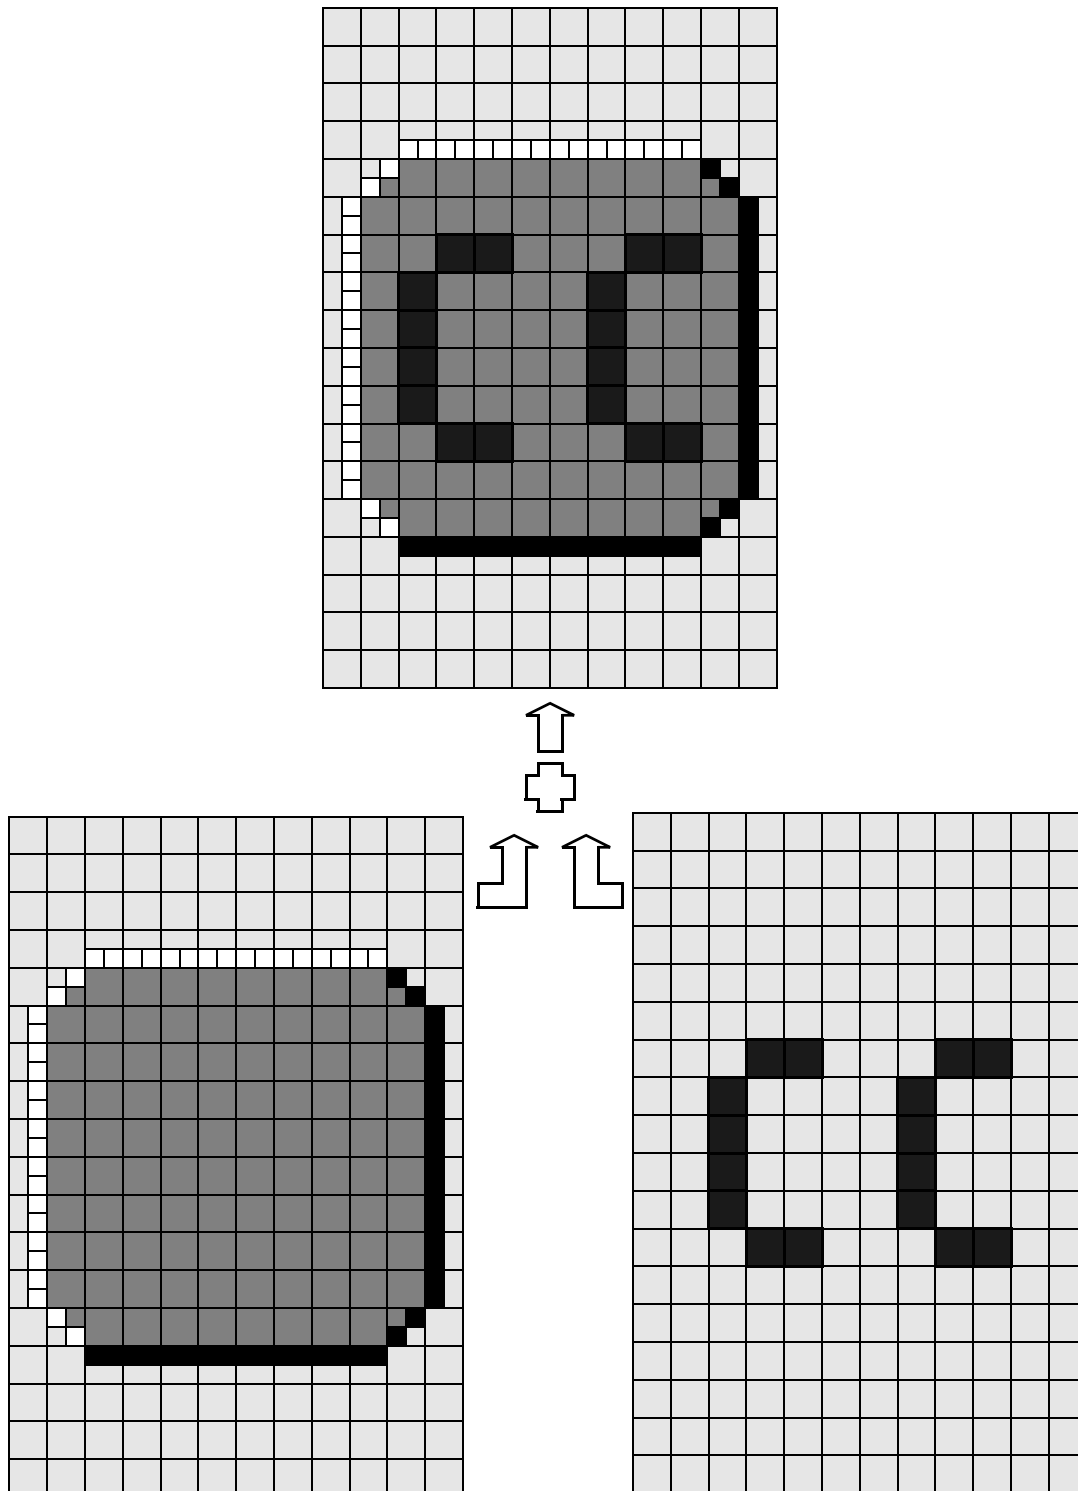

Figure 17-8. Overlaying Characters to Get Two Foreground Colors
A unique feature that appears only in OSD mode is the possibility of overlaying two characters to form a composite one. This is controlled by the backspace (BS) bit, which appears in format A of the character control code. This code must be put between two characters and must be the only one between them. Its effect is to overlay the second character on top of the first one. Figure 17-8 illustrates this feature. The way in which the foreground colors will be combined can be specified in one of two forms: first, the second character will always win; second, the resulting foreground color will be the X-OR of the individual RGB bits. Using this feature, it is possible to have up to three foreground colors, but there are some limitations. It is not possible to add attributes to the second character. As a consequence, only the first character can have rounding, black outline and shadow. The background color of the composite character will be the background color of the first character.